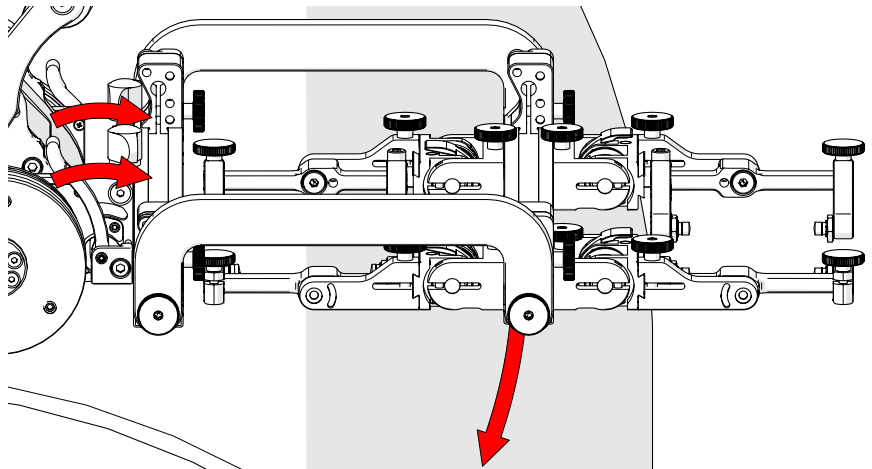
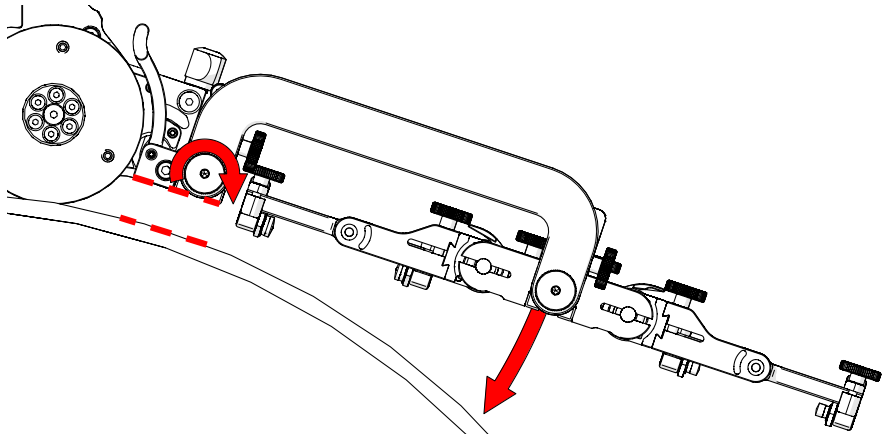

Fig. 155 - Align swivel mount with scan surface
Fig. 156 - Set rear rotational adjustment knob
4. Release the two swivel mount levers (Fig. 155) to position the swivel mount parallel to the scan surface (Fig. 156). Lock the crawler swivel mount levers when aligned with the scan surface.
5. Loosen the rear rotational adjustment knob to lower the front frame bar of the low profile frame towards the inspection surface (Fig. 156).